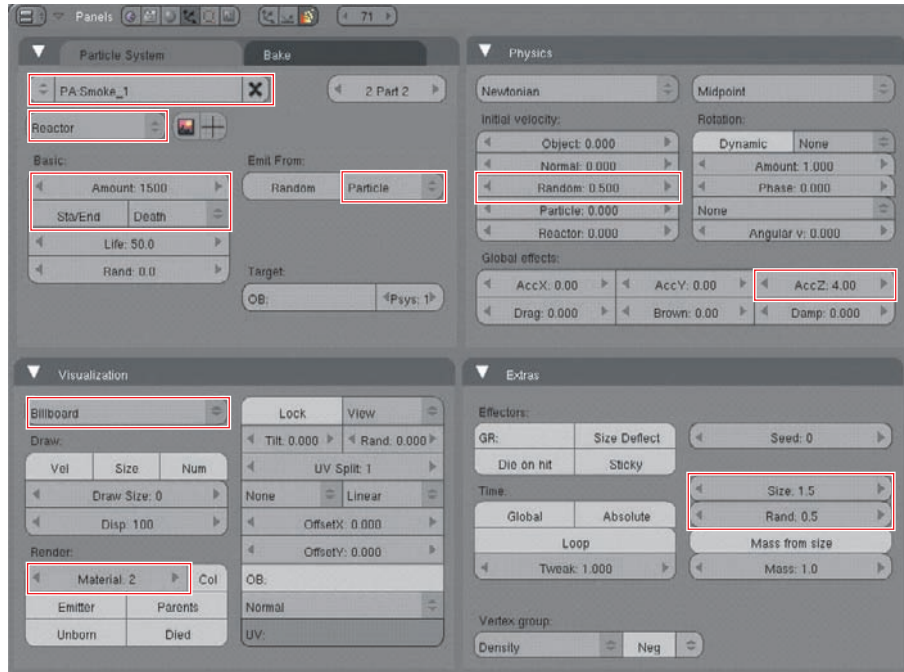

Figure 2.41 Reactor smoke particles
10. Now it's time to turn to the smoke. Add another particle system to the cube object by clicking the right-hand arrow of the system counter (which reads "1 Part 1") in order to set up a second particle system. A blank particle panel appears, displaying "2 Part 2" to indicate that you are working now with the second of two particle systems. Choose Add New from the Particle System drop-down menu. Set the new particle system's values as shown in Figure 2.41. This particle system is named Smoke_1 because it is the first of two smoke systems you will use. This system will represent the smoke that rises from the tips of the flames; this means that it will be set to emit directly from the flame particles as they die. Set the particles as Reactor particles with the Emit From value set to Particle. By default, Reactor particles are targeted to the first particle system on the same mesh, so you don't need to adjust this. On the Physics tab, give the particles a slight random initial velocity and a Z axis acceleration of about 4. On the Extras tab, set the size of the particles to 1.5 and the Rand factor to 0.5. On the Visualization tab, choose Billboard from the